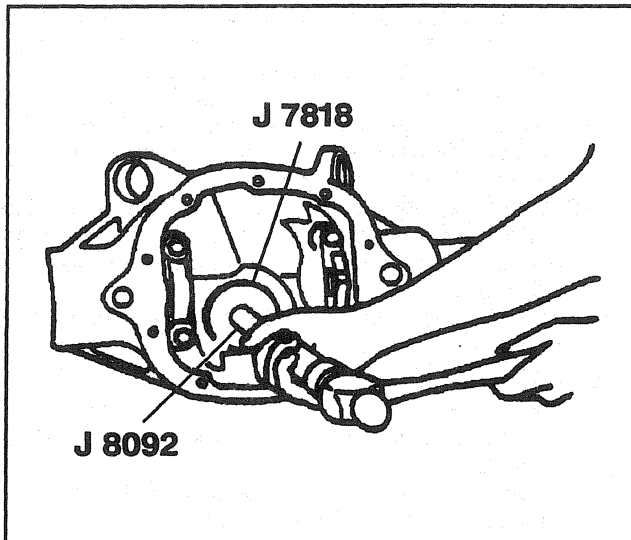

Figure 11—Installing the Rear Pinion Bearing Cup
2. Rear pinion bearing cup (5) using J 8608 and J 8092 (Figure 11).